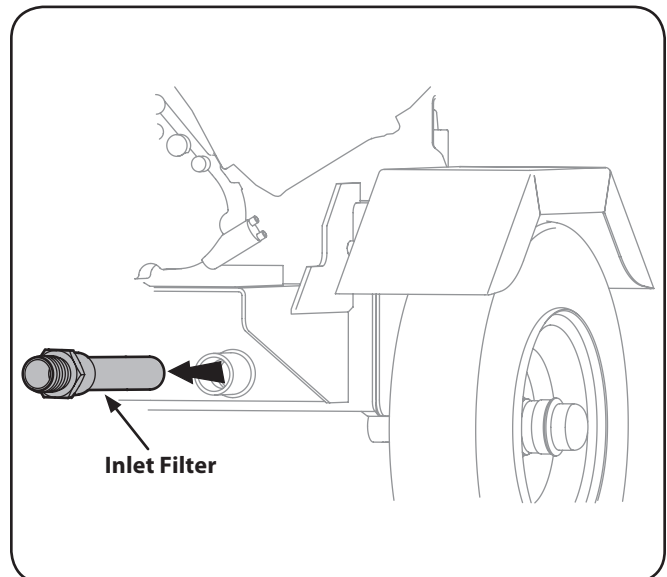

Figure 6-3
5. Carefully un-thread the inlet filter and clean it with penetrating oil. See Figure 6-3.